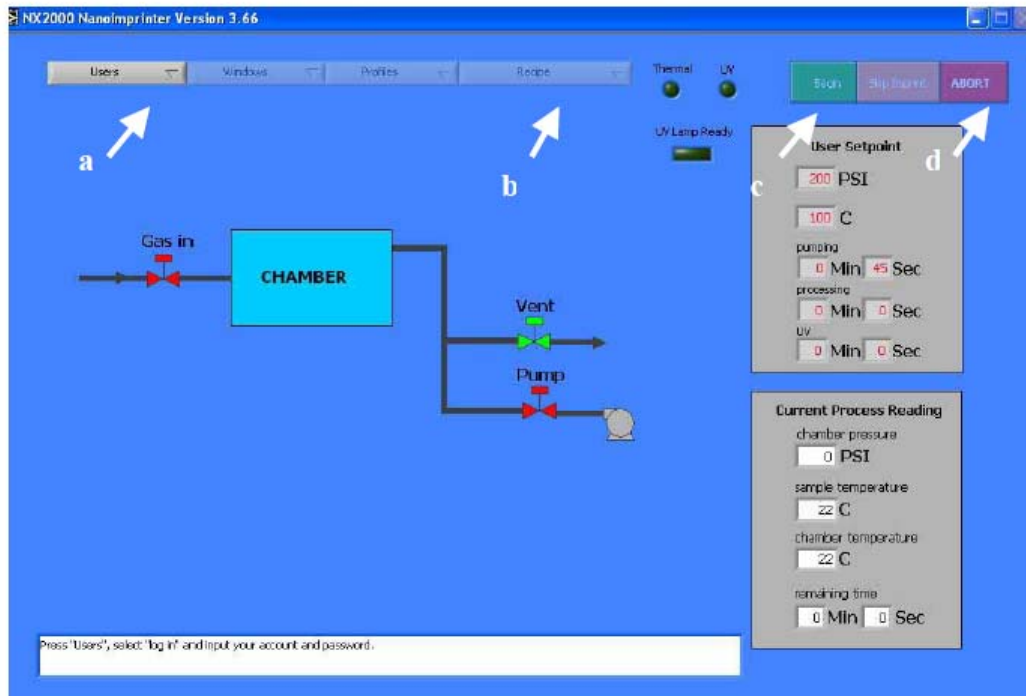

Figure 4-9 NX-B200 v3.65 menu
- c Click **“Users”** ⇒ **“Log in”** (“a” in figure 4-9), enter user ID- **user** and Password – **user_1234**, and click **“OK”** to log onto the system. If for some reason, you don’t want to log in, just click **“EXIT”** in the log in pop up menu. The program will terminate.
- d Click load recipe (“b” in figure 4-9)
- j To begin imprint click green “Begin” button (“c” in figure 4-9).
- p At any time the operator can abort the process by clicking the red “abort” (“d” in figure 4-9) in the upper right of the screen. After pressing the abort button in the software, the operator should wait for ~ 1 minute, and then follow the screen instructions to continue. Also, an emergency stop may be executed by pressing the red Emergency button on the small box underneath the monitor. After an emergency stop, the operator must contact NFC staff to reset the machine.